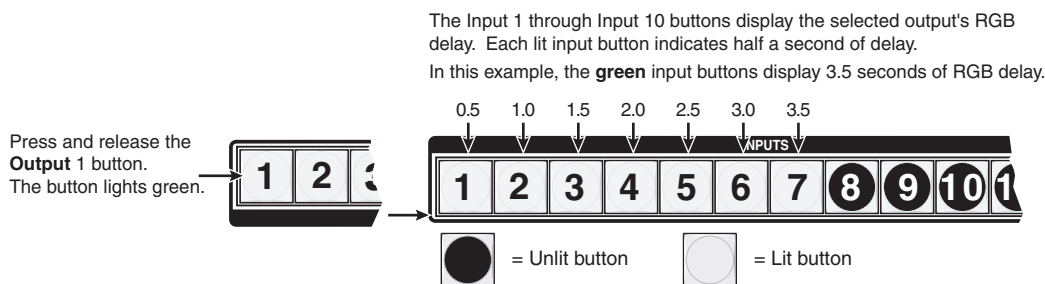

Figure 3-36 — Select an output
3. Press and release the output 17 button (figure 3-36).